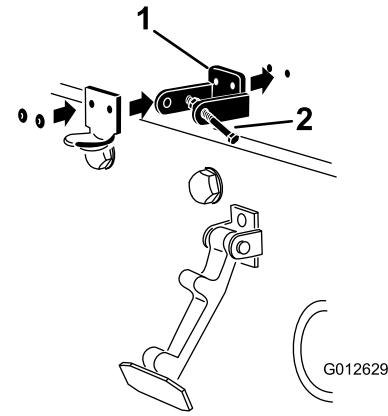

Figure 5
4. While aligning the mounting holes, position the CE lock bracket and the hood-latch bracket onto the hood (Figure 5).
6. Rivet the brackets and the washers to the hood (Figure 5).